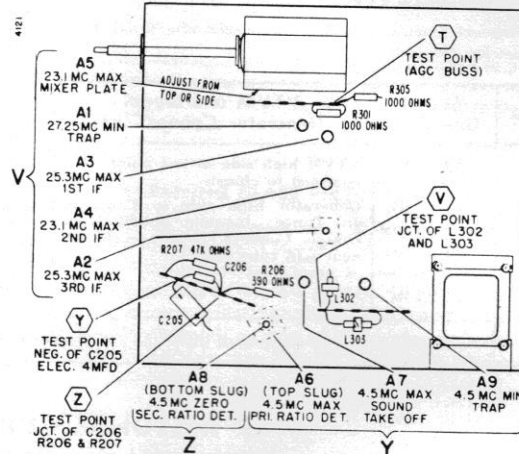

Figure 9. Bottom View of Chassis Showing Test Point Connections and IF Alignment Data.
- Connect bias battery; negative to test point "T", see figure 9, positive to chassis. A 3 volt battery is required for steps 1, 2, 3, 4 and 5.